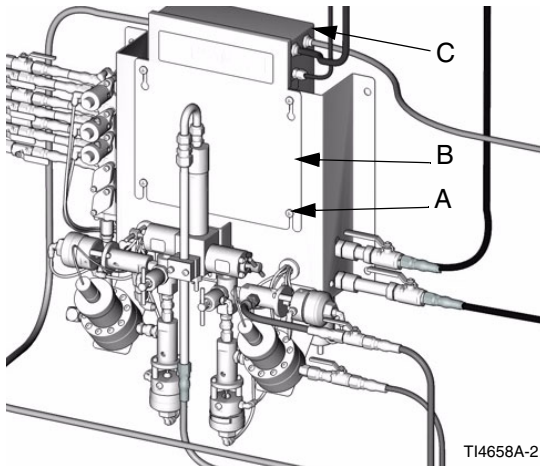

FIG. 9
1. Remove screws and slide the panel (C) back into place.
2. Secure cover (B) with the 4 screws (A). FIG. 9.